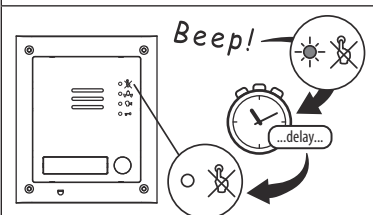

Fig. 59
4. Next a single short beep will be heard (in the meantime the busy LED will continue to flash while it registers with the chosen network), then after a further short delay the busy LED will stop flashing to indicate that the GSM has registered with the network, see **Fig.59**.